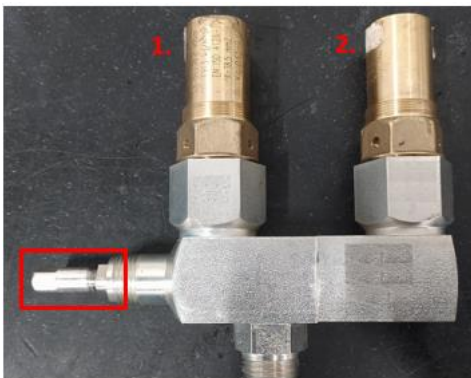
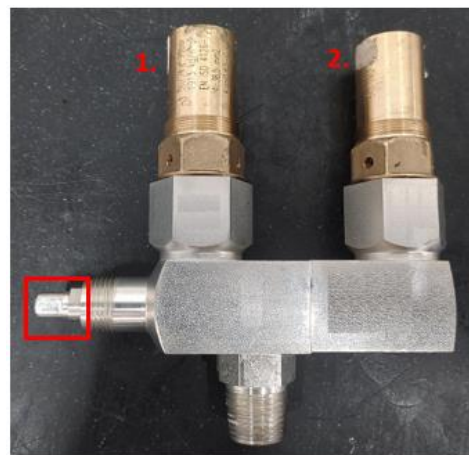

Figure 63: Changeover valve – Shaft in open position
Figure 64: Changeover valve – Shaft in closed position
- Make sure that the changeover valve on the leak side is closed. **Figure 63** shows the configuration with PRV 1 closed while **Figure 64** shows the configuration with PRV 2 closed.